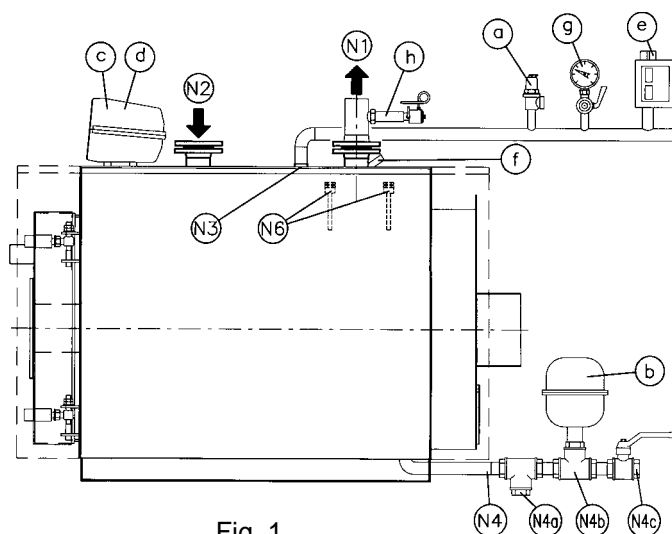

Fig. 1
3.2.1 HOT WATER HEATING SYSTEM WITH CLOSED EXPANSION VESSEL - Furnace output \leq 300.000 kcal/h - pressure 5 bar (Fig. 1)